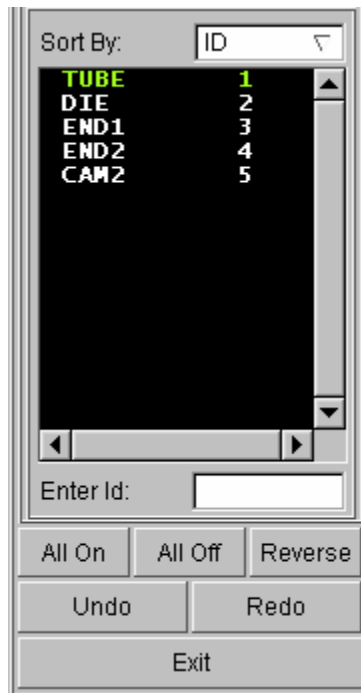

Figure 3.50 Part turn on/off dialog box
- In Part Operation dialog, use your mouse cursor to click on all the parts, excluding BLANK, as illustrated in Figure 3.50. All the tools are hidden from the display area. Then, press **Exit** button to dismiss the dialog box.